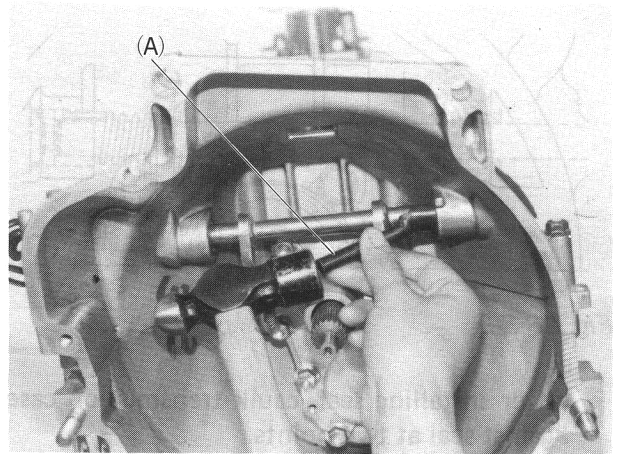

Fig. 13-3-2
- 3) Remove clutch release shaft spring from shaft. With special tool (A) applied in such a position as shown in Fig. 13-3-2, tap the end of special tool to take out bush and cap. Clutch release bush remover (A) (09925 48210)